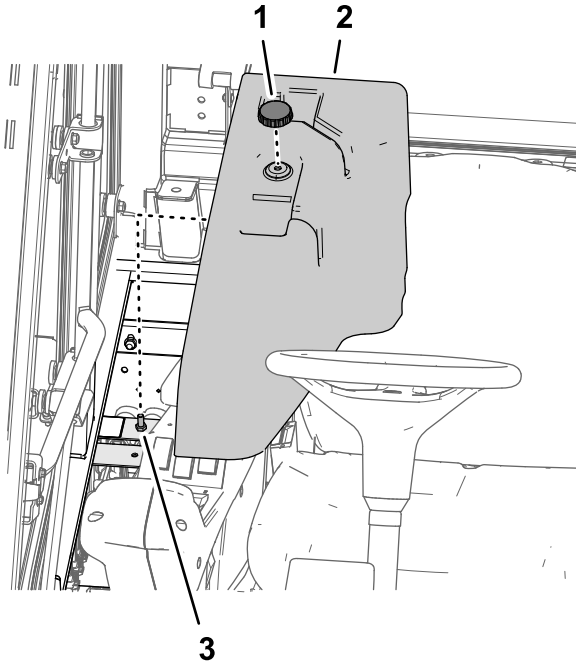

Figure 53
1. Remove the knob that secures the cover for the power center to the stud on the power-center bracket, and remove the cover (Figure 53).
3. Align the hole in the cover for the power center with the stud on the power-center bracket (Figure 53).
4. Secure the cover to the stud with the knob that you removed in step 1 (Figure 53).